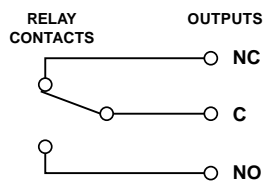

Figure 8. Form-C Relay Schematic
Connection is made via two Phoenix Contact spring clamp terminal blocks. J3 is for the Form C relay contact of side B and J4 is for the Form C relay contact of side B. Terminals 1, 2 and 3 viewed from left to right are the normally open (NO) common (C) and normally closed (NC) contacts, respectively. See figure 8 below.
When the input power is connected to a side (A or B), the Form C relay of that side is energized. If there is either loss of input power, one or more circuit breakers trip or the relay is de-energized, the normally open contacts close and the normally closed contacts open. See figure 8 below.